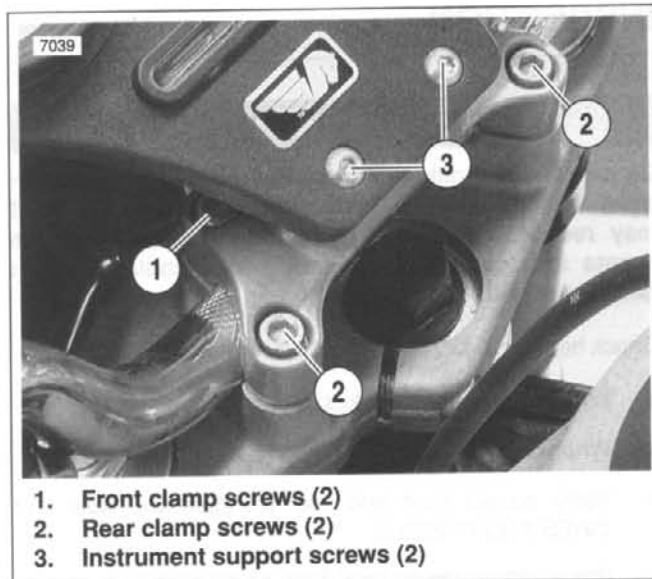

Figure 1-70. Adjusting Handlebars
2. See Figure 1-70. Detach instrument support by removing both instrument support screws (3).